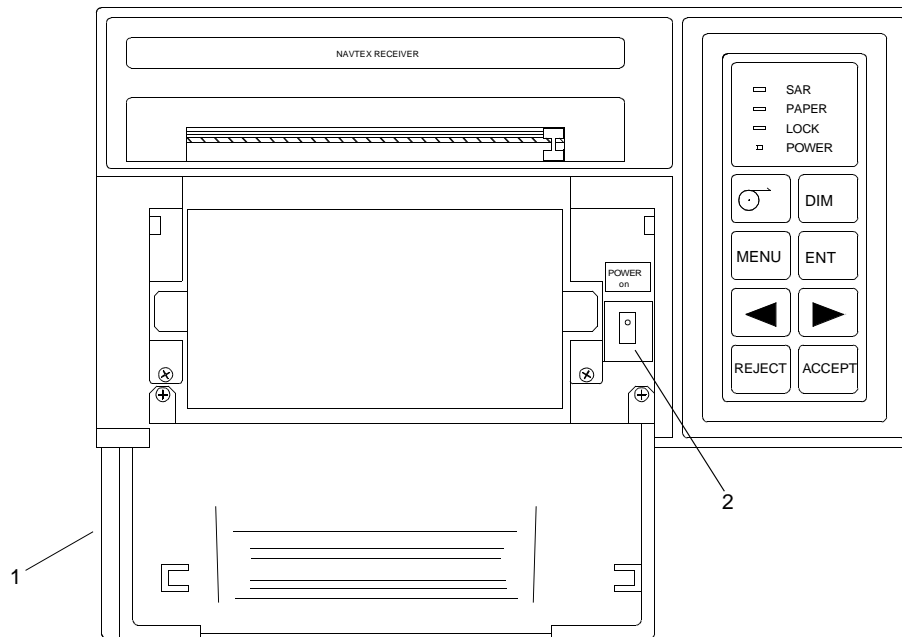

Figure 2. Power Switch
1. Open the front panel (figure 2, item 1) and turn on the power switch (figure 2, item 2).